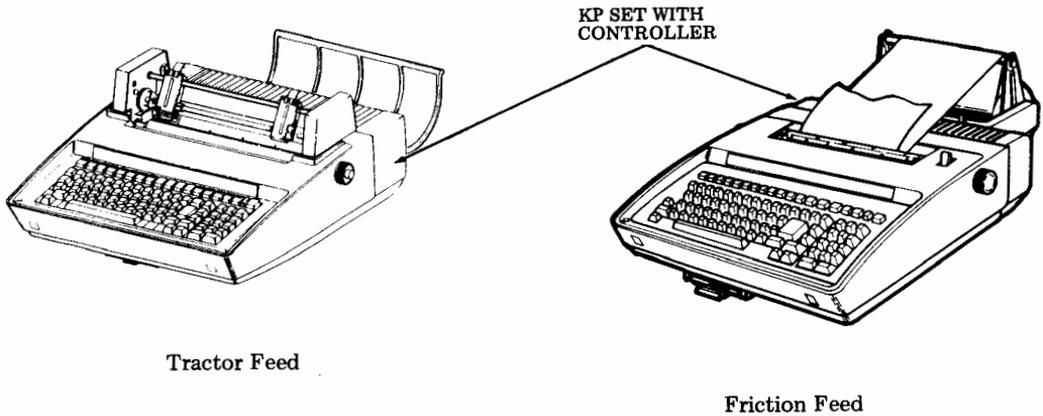

Fig. 1
2.01 The 43 BSC Station consists of a KP set (Keyboard Printer) and a controller housed in the bustle. See Fig. 1.
2.02 The 43 BSC is available as a friction feed or tractor feed teleprinter containing a 16,000 character buffer. See Fig. 1.